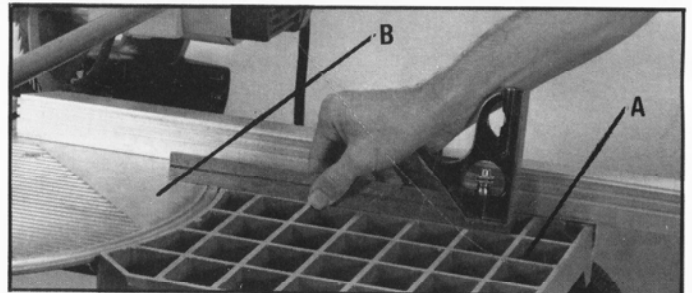

Fig. 39
1. Place a straight edge on the rear of the side table (A) with the straight edge extending slightly over the center disc (B), as shown in Fig. 39, and check to see if the center disc (B) is level with the side table (A).